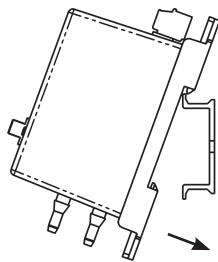

Fig. 3: Catch the EZ Mount hook on the edge of the DIN Rail, then rotate into place.
- Catch the EZ mount hook on DIN rail as shown in Fig 3.